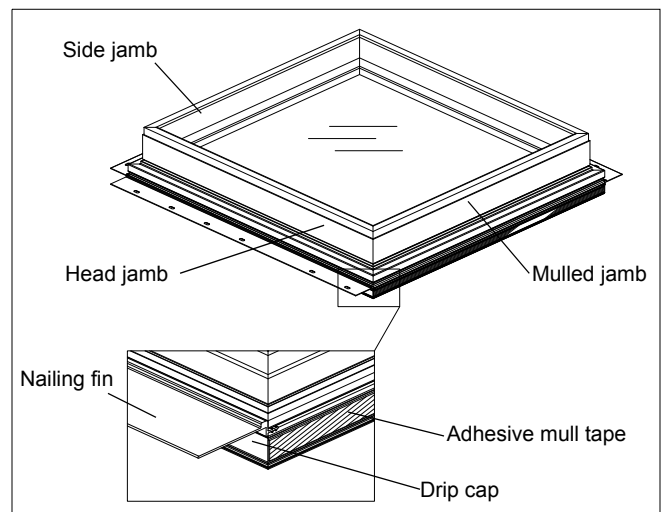

Figure 5
1. Lay frames on a flat surface in the desired mulling configuration (interior facing up). Remove nailing fin and/or drip cap from head jamb, sill, and side jambs that will be mulled together. Apply mull sealing tape to the full length of the head jamb, jamb or sill ensuring that it is located 1/4" (6) from the exterior edge of the Ultrex frame as shown in figure 5.